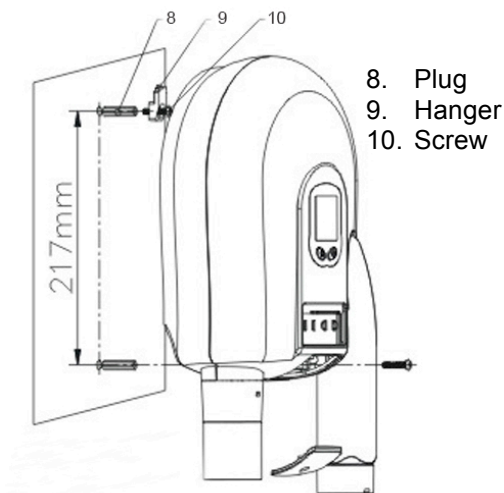

Fig 2.
- 2.5 Mark and drill 6mm diameter by 35mm deep holes per Fig 2.
- 2.6 Attach the base using the screws and plugs provided. Refer to Fig. 2.
- 2.9 Fit the appliance to the wall per Fig. 2. Insert the plugs into the drilled holes and attach using the hanger and screws provided.